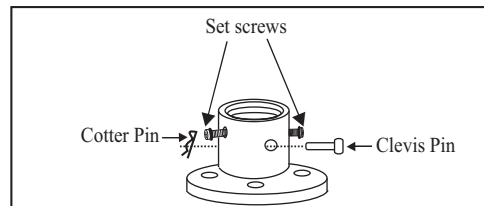

Figure 7
3. Remove the clevis pin, cotter pin and set screws from the top of the motor assembly. (Figure. 7)